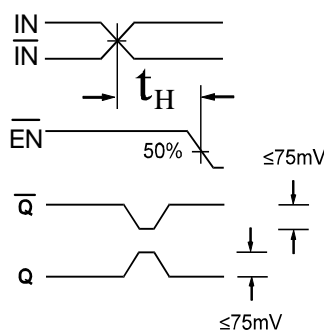

Figure 2. Hold Time
- The hold time is the minimum time that EN must remain asserted after a negative going IN or a positive going \bar{IN} to prevent an output response greater than $\pm 75\text{mV}$ to that IN/ \bar{IN} transition (see Figure 2).